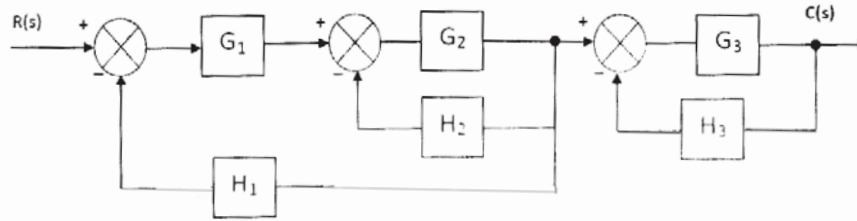

Fig. 2
- b) Using the block diagram reduction technique, determine the transfer function $C(s)/R(s)$ shown in Fig. 2. [6]
- b) Draw the signal flow graph for the block diagram shown in Fig.2 and hence obtain the transfer function $C(s)/R(s)$ by using Mason's gain formula. [6]